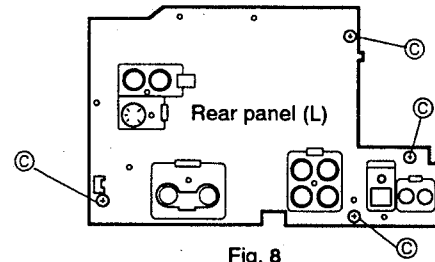

Fig. 8
1. Remove the four screws (C) fastening the rear panel (L). (Fig. 8)